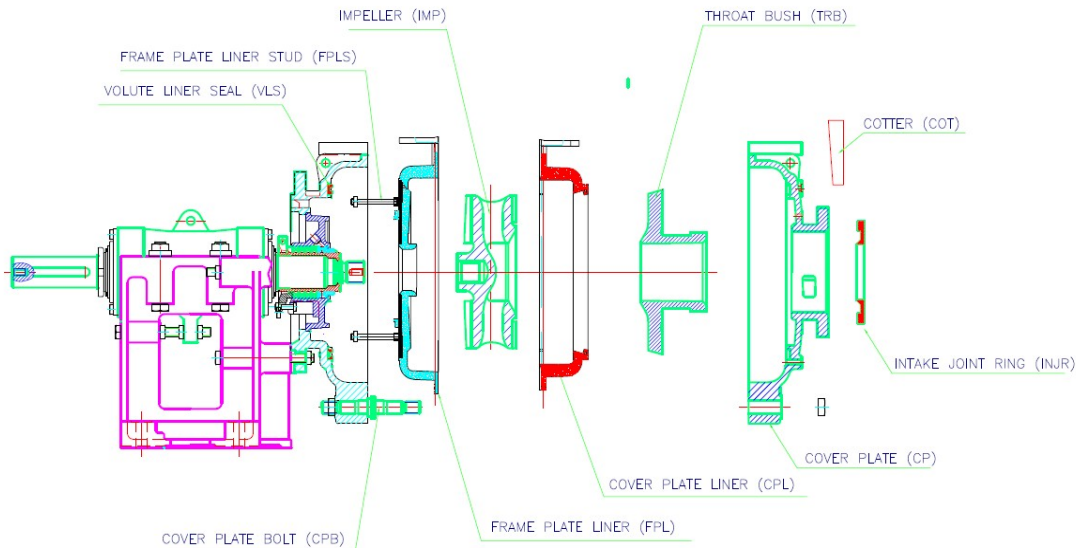

Figure 9-Assembling Three Piece Liners
5.3.2 RUBBER LINERS - THREE PIECE – Ref Fig 9